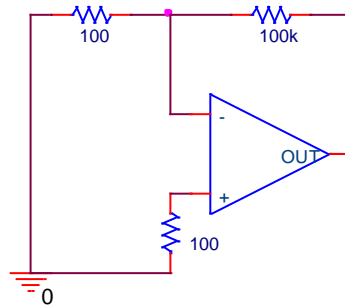

Figure 2
- 4.1. If we assume an op-amp is ideal in the sense of input offset voltage,  $V_{io} = 0$ , then its output voltage would be zero. Observe the op-amp circuit in Figure 2. Assume that  $V_{out}$  is equal to ABC millivolts, recall the op-amp lecture from the course “Analog Circuits”, and redraw the circuit with an implementation of the non-ideal op-amp, where  $V_{io} \neq 0$ .